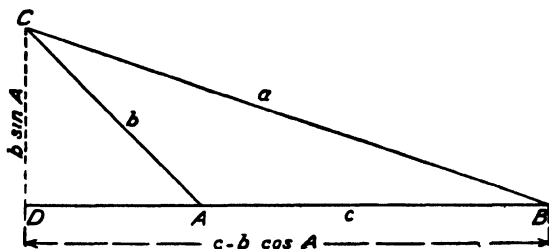
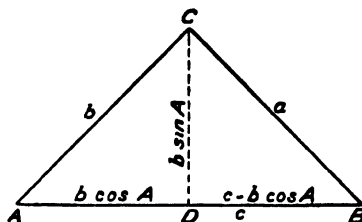

Fig. 15.
Fig. 16.
In Fig. 15
In Fig. 16
49. Now in both Fig. 15 and Fig 16
55. In Fig. 15 and Fig. 16 of Art. 48 we see that if K is the area of the triangle,